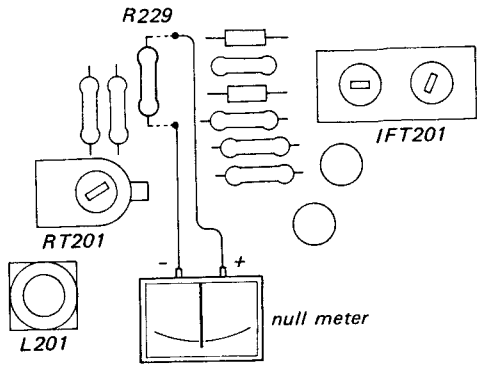

Fig. 3-4. Fm discriminator alignment setup
1. Disconnect R229 from the fm(a-m) front-end/i-f amp/MPX board, and connect the null meter in place of R229 as shown in Fig. 3-4.